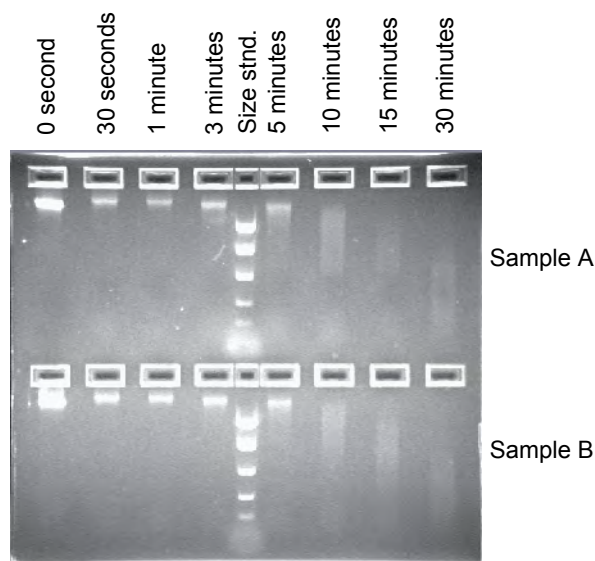

Figure 11 Agarose gel stained with ethidium bromide showing two samples of human gDNA subjected to heating at 99°C for 0 to 30 minutes.
- 1 Run an agarose gel to determine if your DNA is degraded. Look for a tight band of high molecular weight; smearing indicates degraded DNA. Figure 11 illustrates DNA degraded by heat. If the DNA is substantially degraded, use more caution in interpreting your results. If possible, consider repeating the assay using freshly prepared genomic DNA samples.